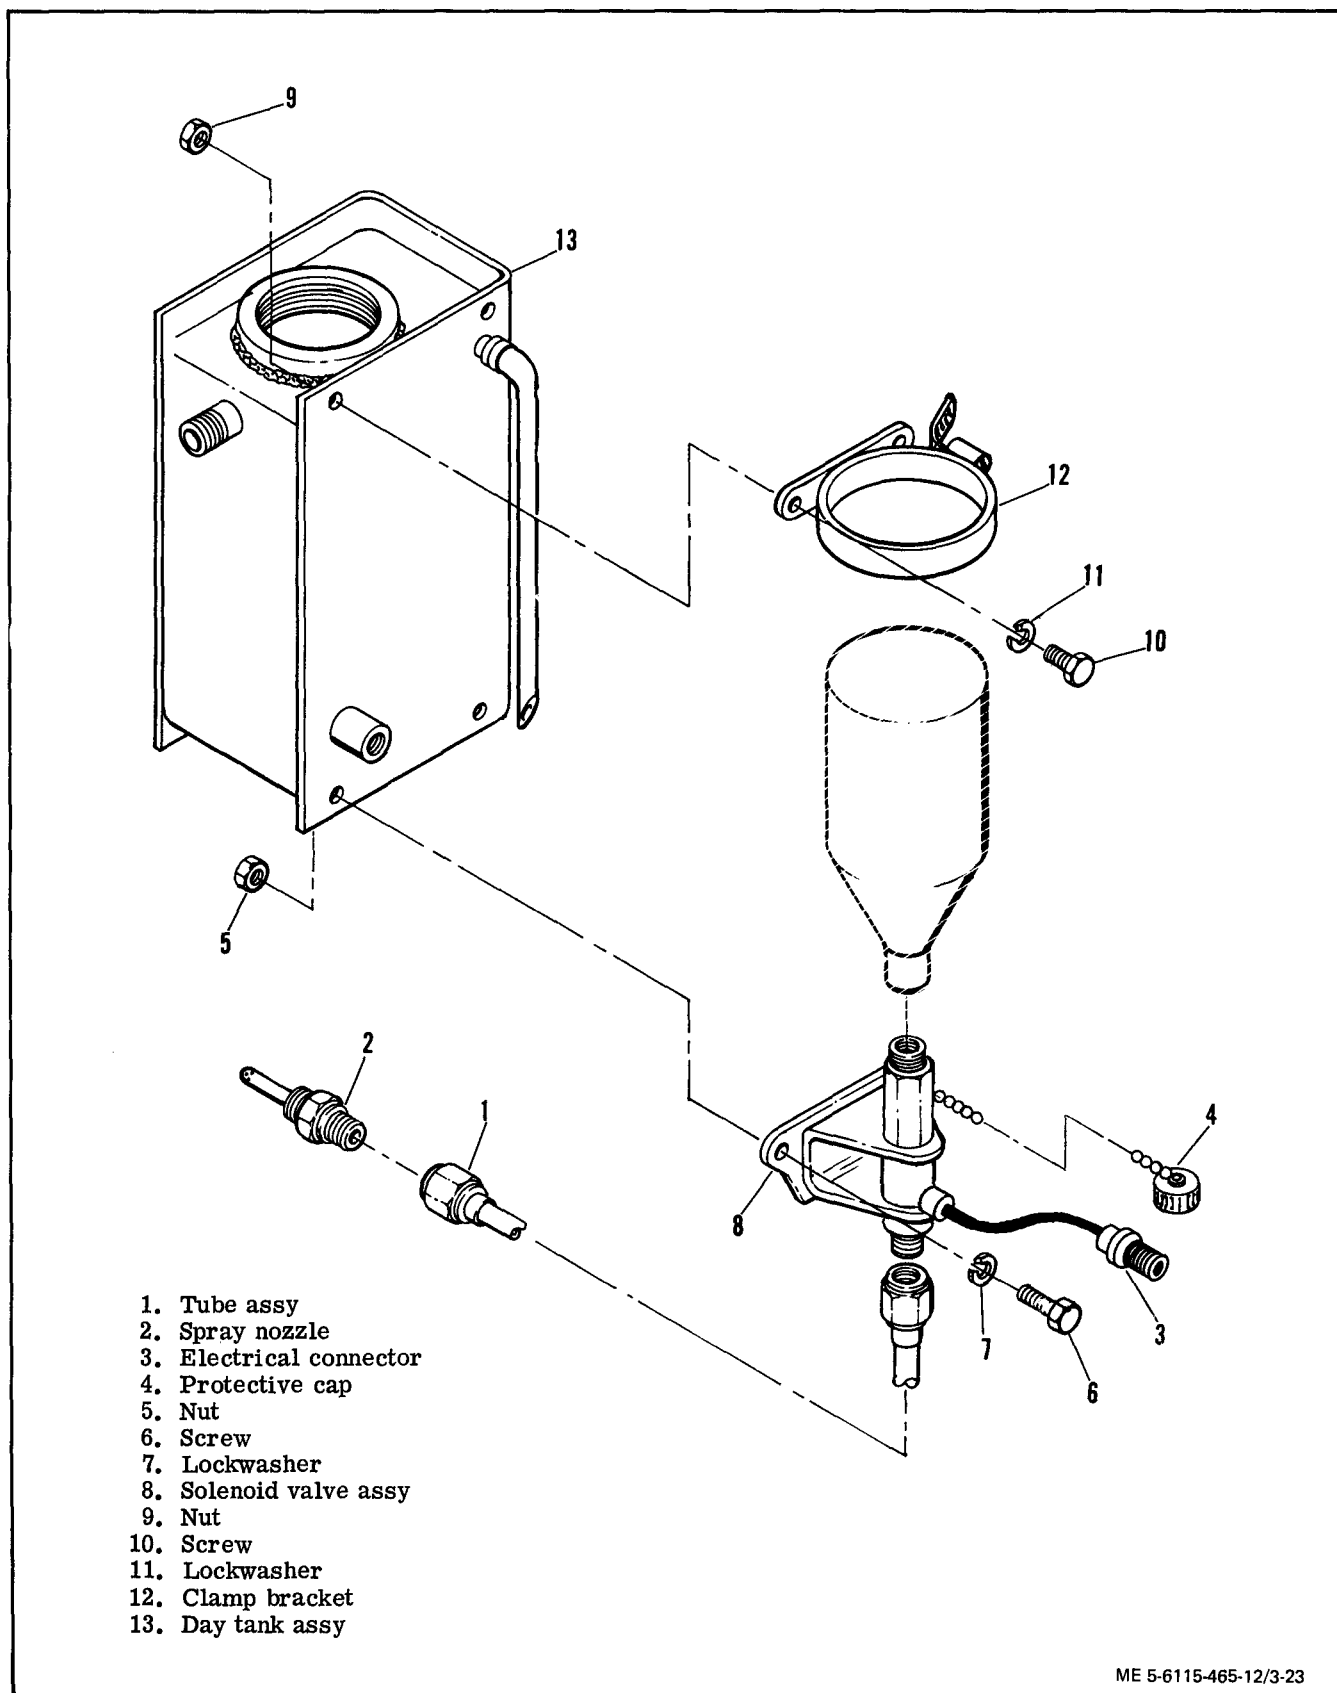

Figure 3-23. Start Aid Assembly, Removal and Installation
(1) Remove tube assembly (1, figure 3-23) and unscrew spray nozzle (2) from air cleaner housing.
(2) Remove ether tank and install protective cap (4) on solenoid valve assembly (8).
(3) Disconnect electrical connector (3) from solenoid valve assembly.
(4) Remove nuts (5), screws (6), and lockwashers (7) to remove solenoid valve assembly (8).
(5) Remove nuts (9), screws (10), and lockwashers (11) to remove clamp bracket (12) from day tank assembly (13).